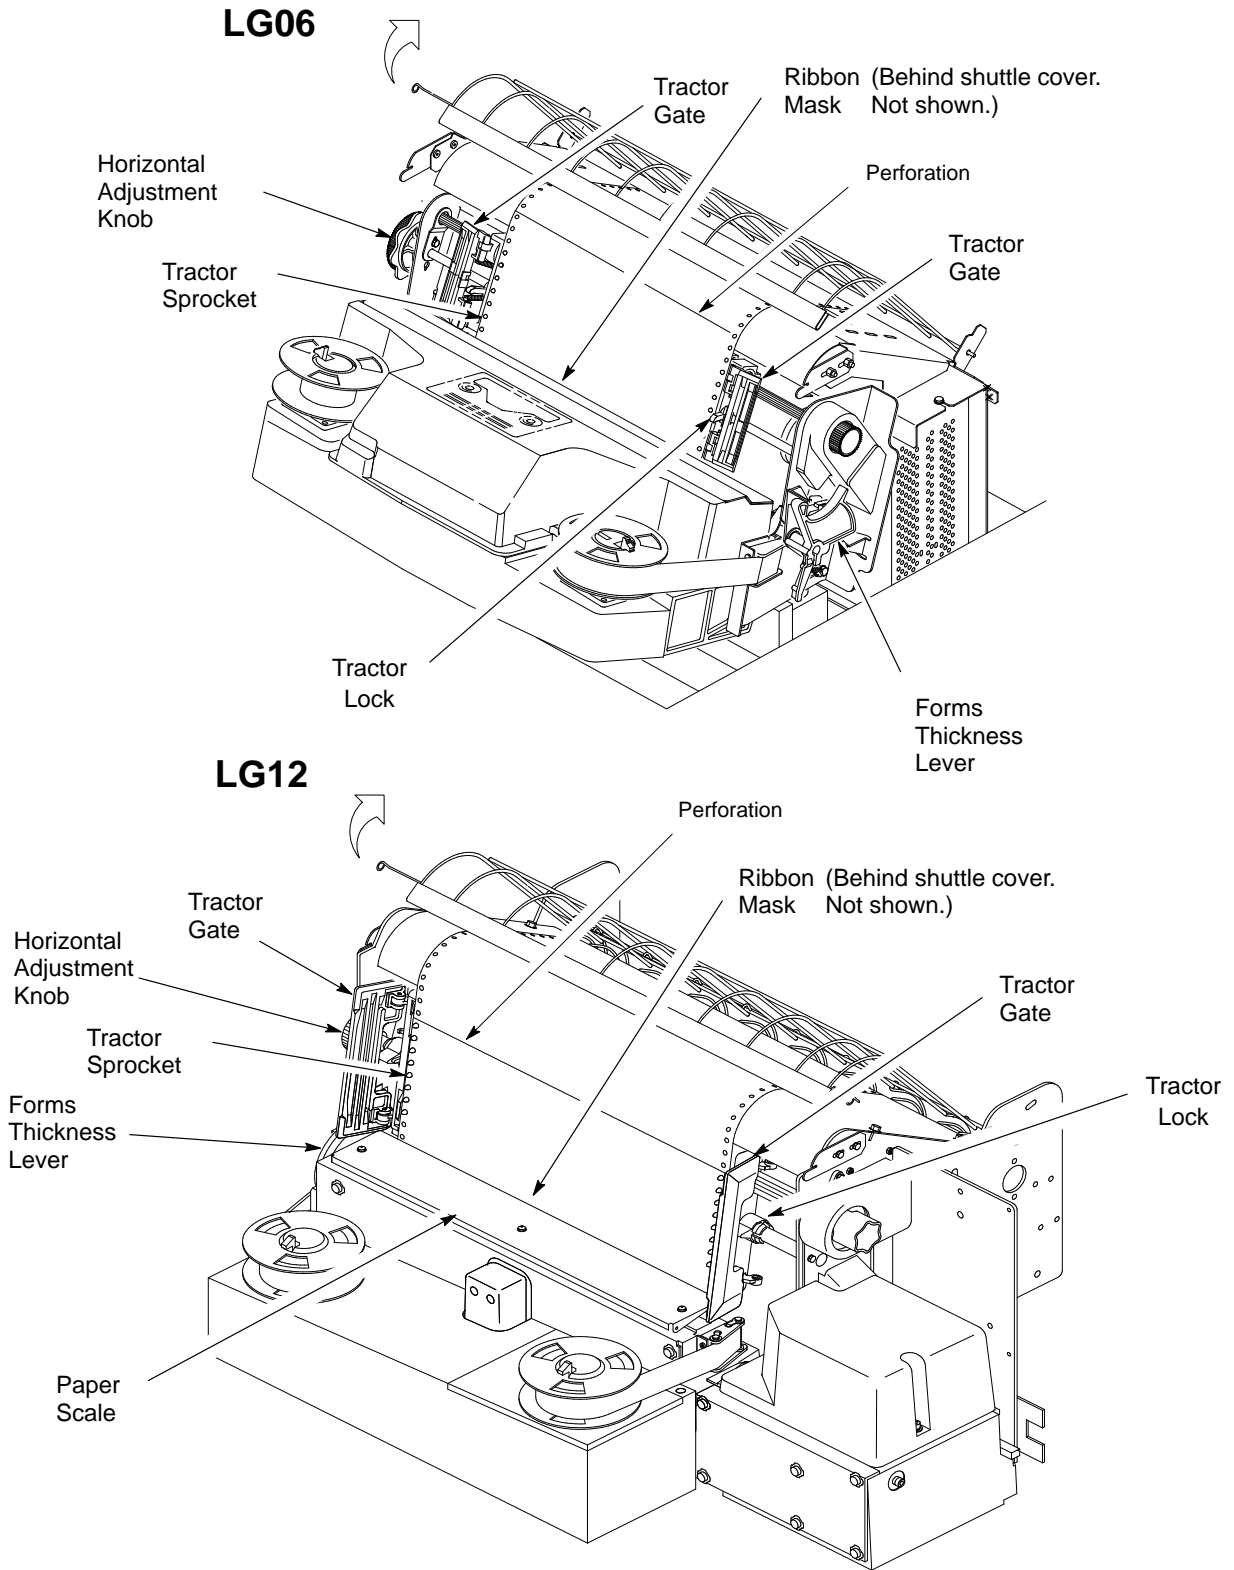

Figure 3-4. Loading and Unloading Paper
2. Raise the forms thickness lever all the way. (See Figure 3-4.)